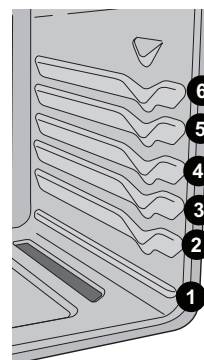

Figure 13: Oven rack positions
- For best results when baking cakes or cookies using two oven racks, place racks in positions 3 and 5 (See Figure 13).